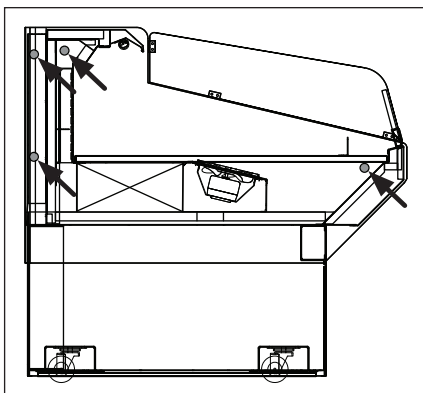

Fig. 6 Bolt locations (HSCN-SC)
4. Push the cases tightly together, then lightly bolt them together through the holes provided (Fig. 6 & 7). Tighten all the joining bolts until all margins are equal. Be careful not to over tighten.